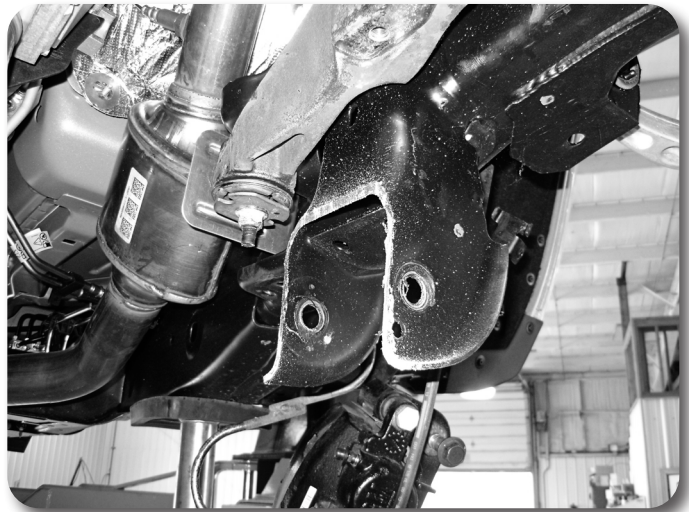

Figure 15
29. With the vertical cuts complete, cut the top portion of the pocket by connecting the two cuts Figure 15.